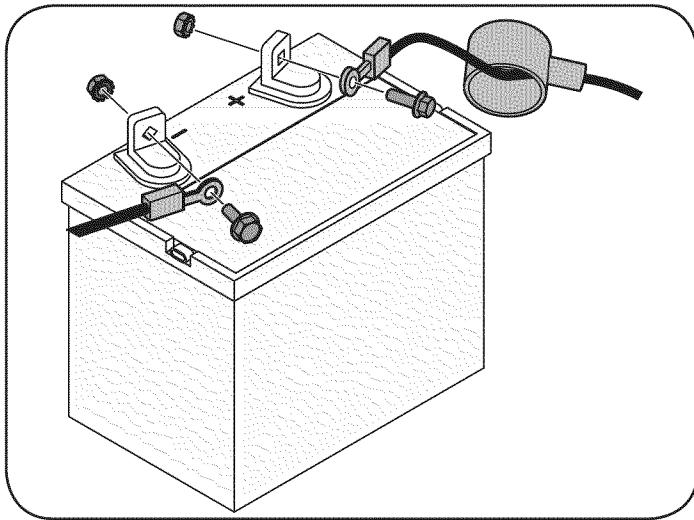

Figure 3
1. Remove the plastic cover, if present, from the positive battery terminal and attach the red cable to the positive battery terminal (+) with the bolt and hex nut. See Figure 3.
2. Remove the plastic cover, if present, from the negative battery terminal and attach the black cable to the negative battery terminal (-) with the bolt and hex nut. See Figure 3.